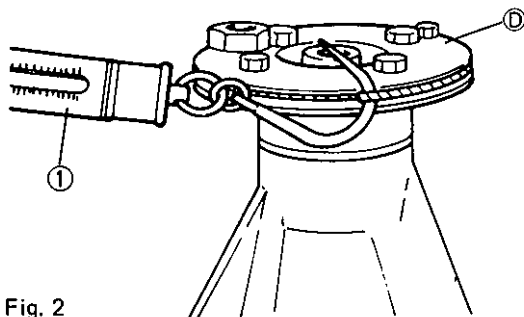
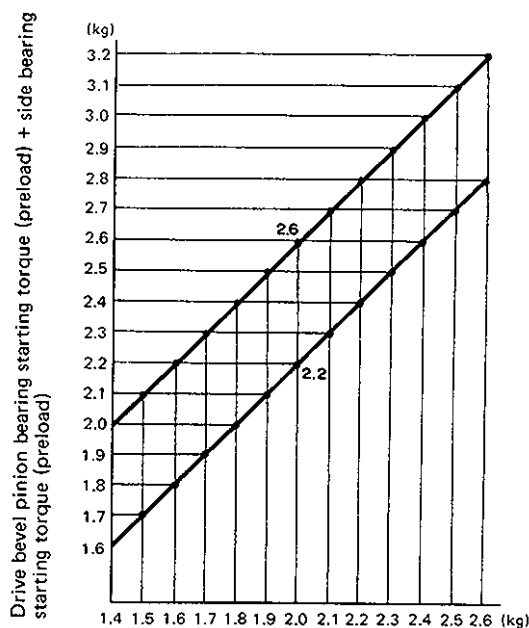

Fig. 2
Fig. 3 Drive bevel pinion bearing starting torque (preload)
The bevel pinion, as installed in normal manner in carrier, is required to offer a certain torque resistance when checked by using prescribed preload adjuster (special tool ②) as shown in Fig. 2. This resistance is a "preload," which is due to the tightness of the two tapered roller bearings by which the pinion is held in the carrier. And this tightness is determined primarily by tightening torque of bevel pinion nut. Adjust preload of bevel pinion bearings as follows.
- (1) Mount special tool on drive bevel pinion as shown in Fig. 2 and measure using spring balance ①. If reading at the instant bevel gear starts moving is within the range given below, side bearing preload is acceptable. Referring to the graph, for example, when the drive bevel pinion bearing preload measured as shown in Fig. 3 is 2.0 kg (4.41 lb), drive bevel pinion bearing preload (kg) + bevel gear side bearing preload (kg) should be 2.2 – 2.6 kg (4.85 – 5.73 lb).
- (2) Upon completion of this adjustment, be sure to tighten bearing cap nuts to 3.0 – 3.7 kg-m (21.7 – 26.7 lb-ft.)